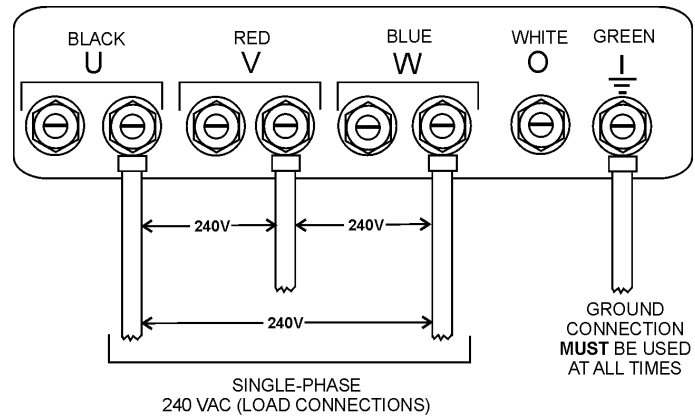

Figure 24. UVWO Terminal Lugs 10-240V Connections
2. Connect the load wires to the UVWO terminals as shown in Figure 24.